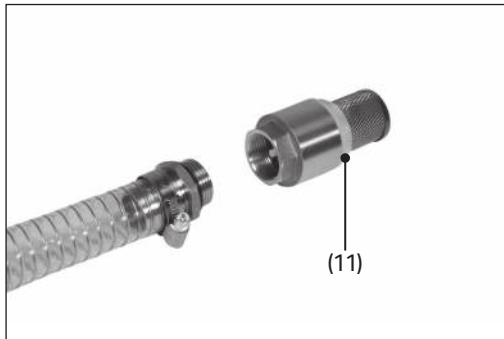

Fig. 3
c. Attach the other end of the hose to the pickup filter (11) (Fig. 3).